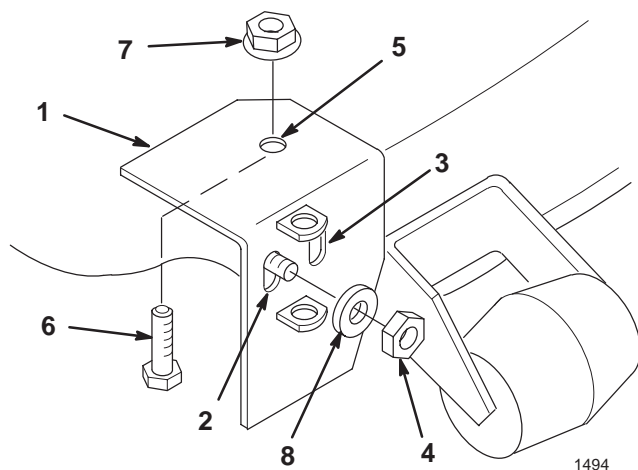

Figure 9
1. Select the proper hole in the pivot support (42 in mower—outside or 48 in. mower—inside) and slide it over the threaded stud welded to the front of the mower near the discharge opening (Fig. 9).
2. Align the pivot support parallel with the front curved edge and tight against the top of the mower (Fig. 9). Clamp it in this position.
4. Secure the pivot support to the mower with a bolt (5/16 x 3/4 in.), pushed through from the underside of the mower, and a flange nut (Fig. 9).